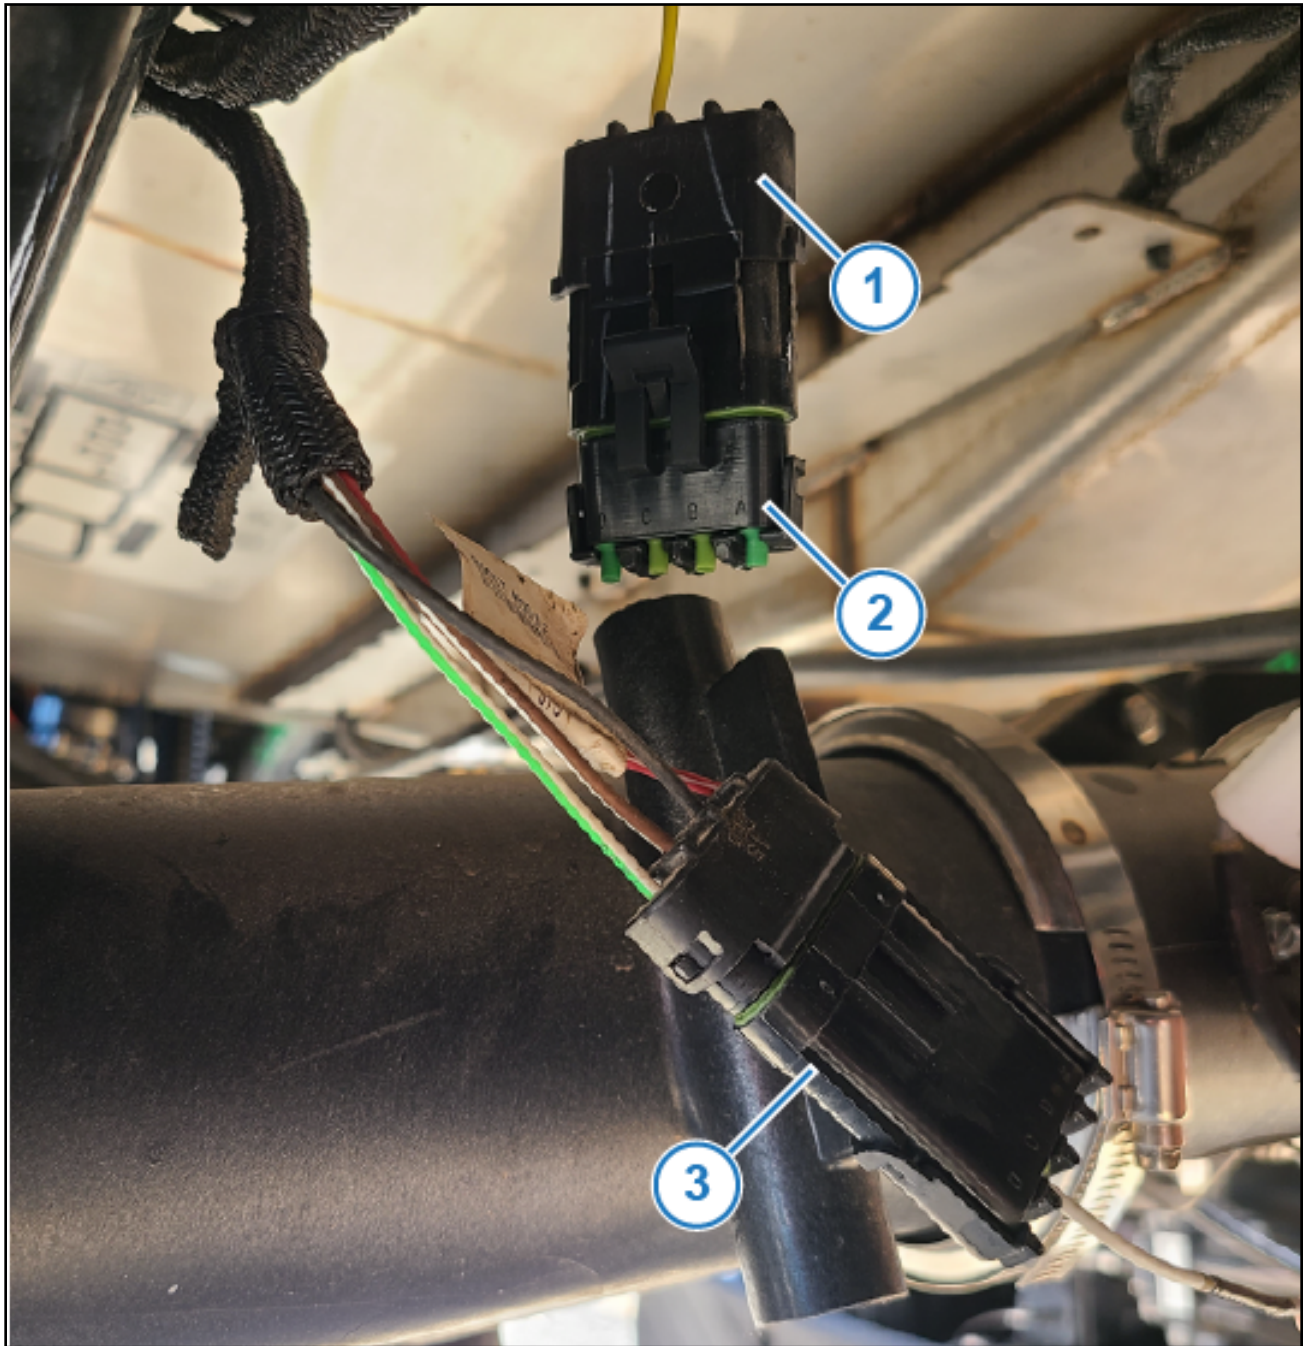

Figure 10: Boost Module Connector
14. Locate the 4-pin Boost Module connector (Figure 10, Item 1) under the machine. Disconnect it and install a dust cap (Figure 10, Item 2).
15. Plug the 4-pin Chassis Harness connector (Figure 10, Item 3) into the machine connector as shown.